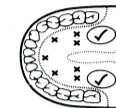

Figure 2
- a) Oral Use: Place thermometer under tongue as indicated by “√” position shown in Figure 2. Close your mouth and breathe evenly through the nose to prevent the measurement from being influenced by inhaled/exhaled air. Normal temperature between 35.70°C and 37.30°C (96.26°F and 99.14°F)